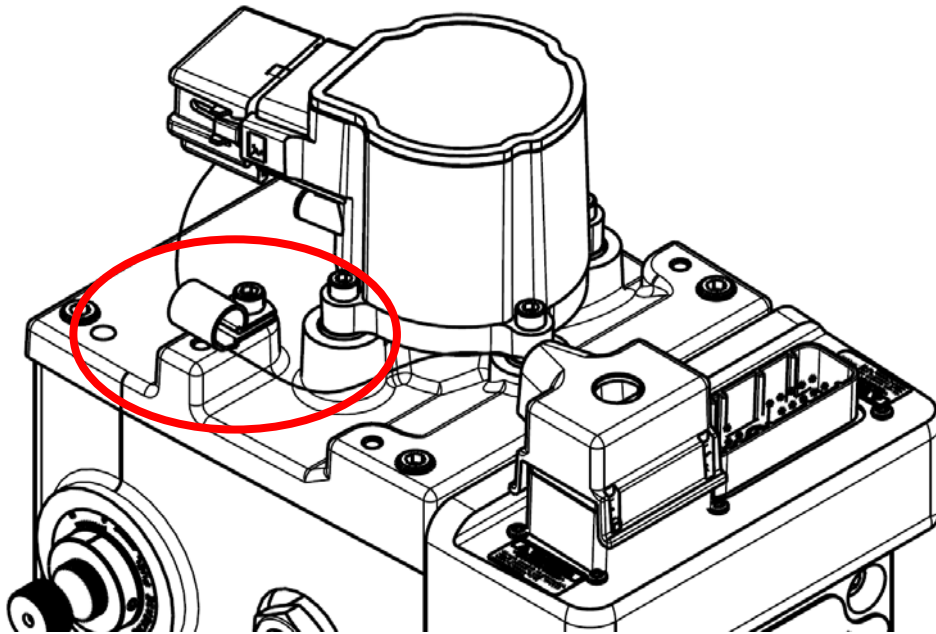

Figure 1. Style 1 Top Cover **with** Boss
- Style 1 top cover has threaded cable clamp bosses (see Figure 1).